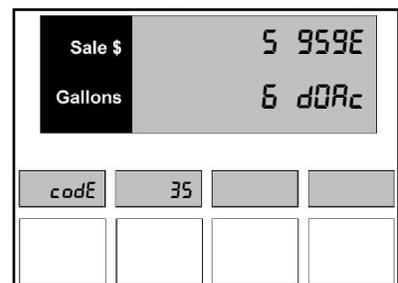

Figure 35.3 – Display 3
3. Press the **Enter** button to view the next set of the checksum as shown in *Figure 35.3*.